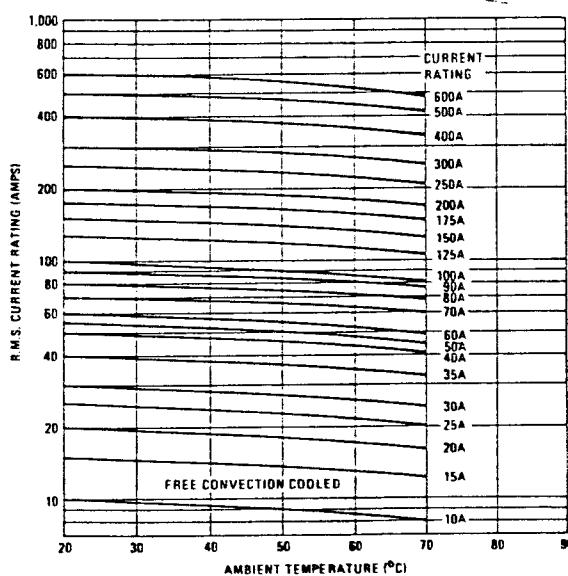

Fig. 3 — Maximum RMS Continuous Current
(3) At maximum rating shown on Figure 3 @ TA = 25°C.